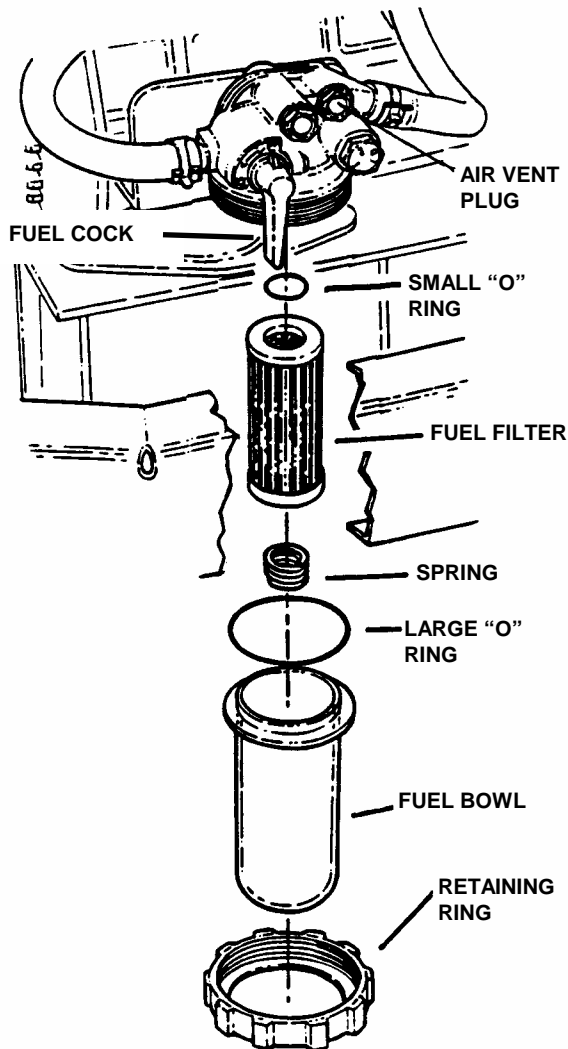

FIGURE 3.8
2. Remove the fuel filter bowl retaining ring. Fuel filter bowl, two "O" Rings, spring and filter can be removed. See Figure 3.8.